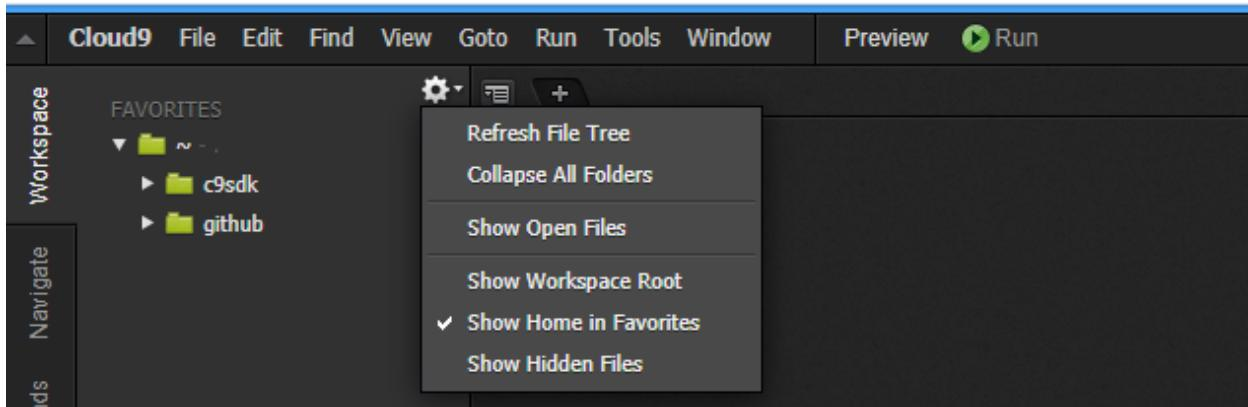

Figure 4
- b. Click on the gear and a drop-down menu will appear, select the option to “Show Home in Favorites” so that it is like Figure 4 shown below.